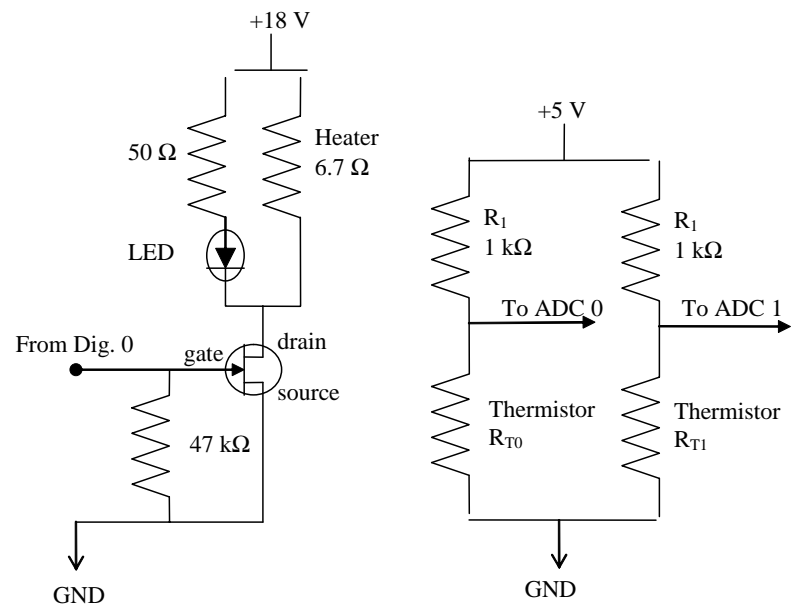

Figure 4.1: The heater and temperature control circuits for the thermal diffusion experiments.
The proto-board contains two circuits, very similar to the ones you have constructed previously for your temperature controller. On the left side of Fig. 4.1 is the heater part of the circuit. Notice that now we use an 18 volt power supply. We want to dissipate a lot of energy in the heater in a short time period, so you should use a power supply that can deliver up to four or five amps.
On the right side of Fig. 4.1 is the thermometer part of the circuit. The only difference between this and your previous circuit is that now we will be reading the voltage across two thermistors at different locations on the copper rod.
1. Assemble the circuit on your proto-board, as shown in Fig. 4.1. Make a sketch of the circuit in your lab notebook, clearly labelling the circuit elements.